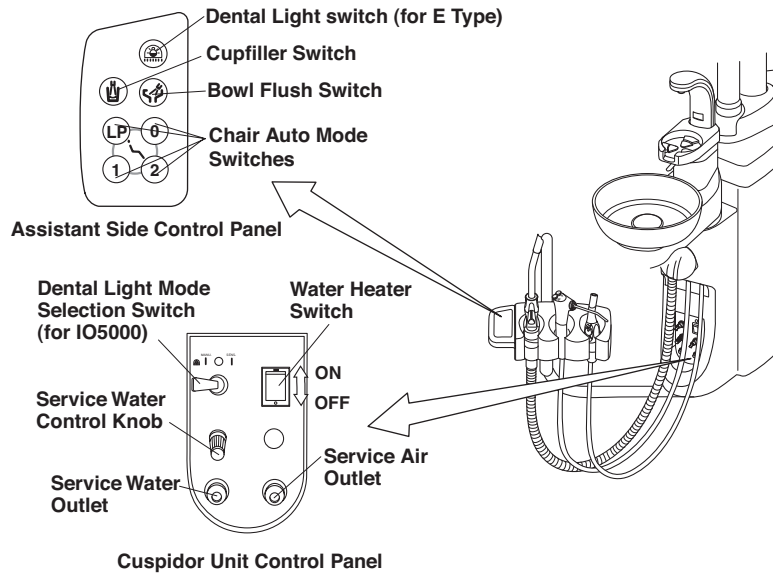

Fig.3-22 Assistant Side Control Panel and Cuspidor Unit Control Panel
(1) Assistant Side Control Panel (Fig.3-22)
(2) Cuspidor Unit Control Panel (Fig.3-22)
B. Water Heater Switch (Fig.3-22)
C. Service Water Outlet (Fig.3-22)
D. Service Water Outlet Control Knob (Fig.3-22)